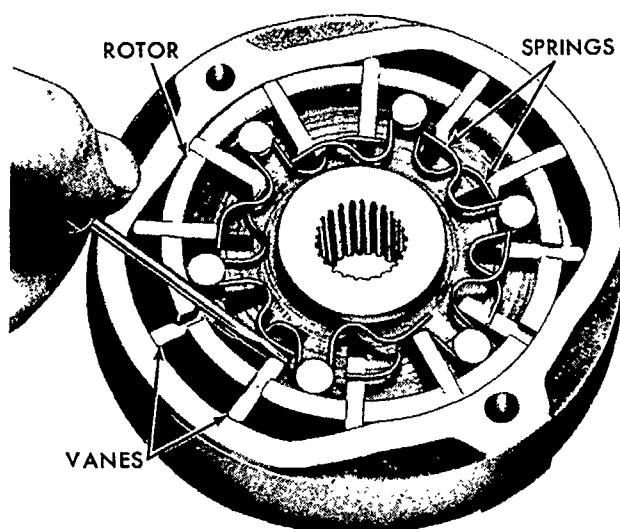

Figure 99
6. Working on a clean surface, place the rotor inside the cam ring, Figure 99.
7. Place three vanes in the rotor slots in the area of each large diameter of the cam ring. Then rotate the rotor 90 degrees and install the remaining vanes. To aid in the installation of the last six vanes, use a small rod or screwdriver and compress each spring as shown in Figure 99. Then, rotate the assembly until the spring is positioned under its respective vane.